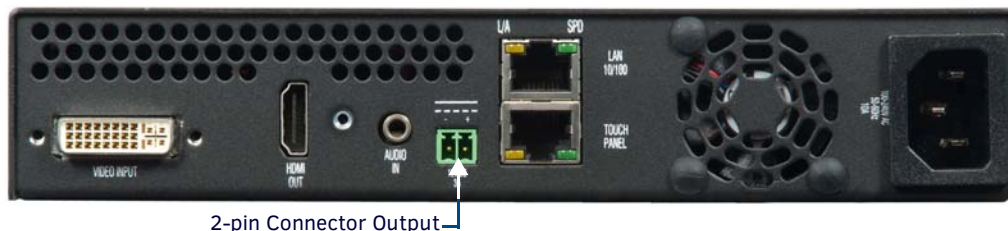

FIG. 4 Rear of the MXA-MP/MPL
Instead of using a separate external power source, touch panels using an external power source may also connect to the device via the 2-pin connector output on the device's back (FIG. 4).
1. Insert the incoming cable from the network LAN to the upper *Ethernet In* RJ45 connector (FIG. 4).
3. If the touch panel is an MXD/T-1900L-PAN or MXD/T-2000XL-PAN (panoramic) device, outgoing power to the touch panel may be supplied via the device's 2-pin connector output (FIG. 4) or through another source. Do not apply power until the installation is complete.
The *Diagnostic Out* port (FIG. 4) mirrors the video signal being sent to the MXA-MPL for diagnostic purposes, such as assessing video sources. The *Diagnostic Out* port output displays on an available screen or touch panel as a 1280 x 720p HDMI signal. This output cannot be modified or expanded. While the *Diagnostic Out* port may be used in certain circumstances as an HDMI output port, the inability to modify the output should relegate it to diagnostic purposes only.